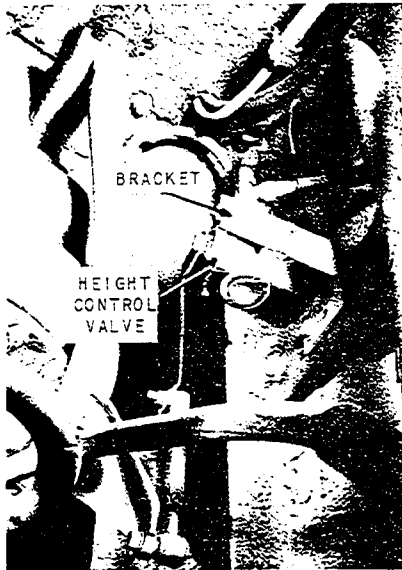

FIGURE 1 - LEFT REAR
**INSTALLATION** Read schematic drawing 209439 prior to beginning installation. Lay out material in relation to the schematic and follow notes carefully in making the installation. Note that check valve-filters in supply lines are discarded. Filters in delivery lines are reused. See also Figures 1 through 4.